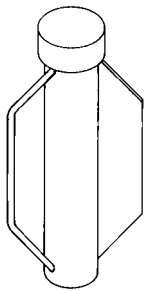

FIG. 1
10. Always use the special STEEL T-POST Holder when driving steel T-posts (see Figure 1). Order part #814490.